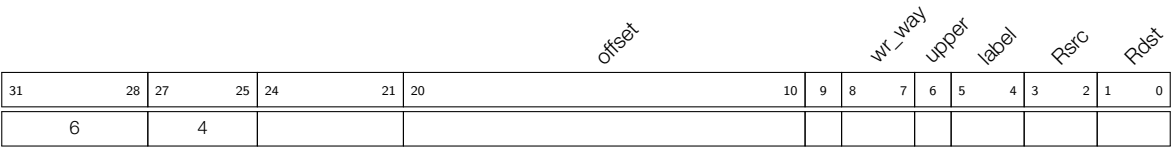

Figure 28-13. Instruction Type - Data Storage in Manual Storage Mode
**Operand Description** - See Figure 28-13